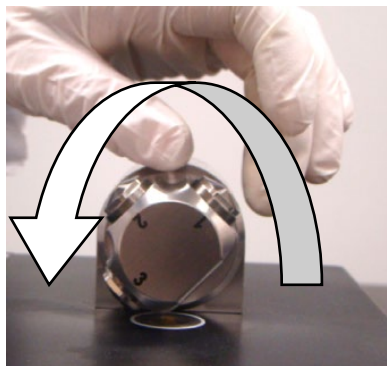

Figure 14. Rotating the DialPath.
- 1 Open the DialPath by rotating the arm (see Figure 14).